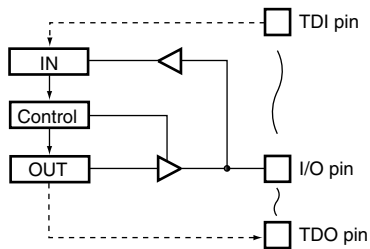

Figure 13.2 Boundary Scan Register Configuration
The I/O pins consists of three bits (IN, Control, OUT), input pins 1 bit (IN), and output pins 1 bit (OUT) of shift registers. The boundary scan test based on the JTAG standard can be performed by using instructions listed in Table 13.2. Table 13.4 shows the correspondence between the LSI pins and boundary scan registers. (In Table 13.4, Control indicates the high active pin. By specifying Control to high, the pin is driven by OUT.) Figure 13.2 shows the boundary scan register configuration example.